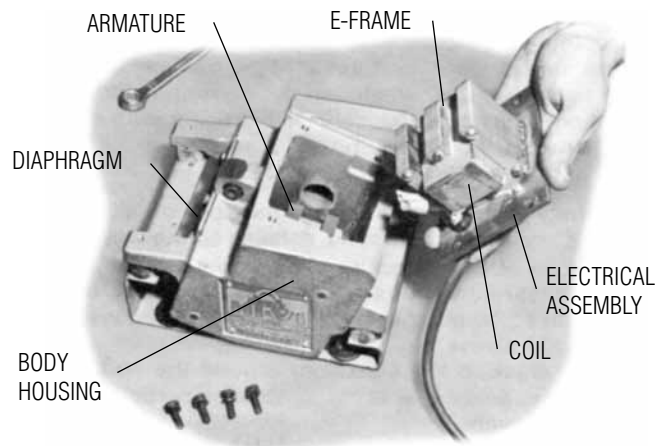

FIGURE 9
3. Remove the bolts securing the electrical assembly to the body housing and lift the assembly out of the body housing (see Figure 9). At this point the armature could also be removed, if necessary, by simply lifting it out of the body cavity.